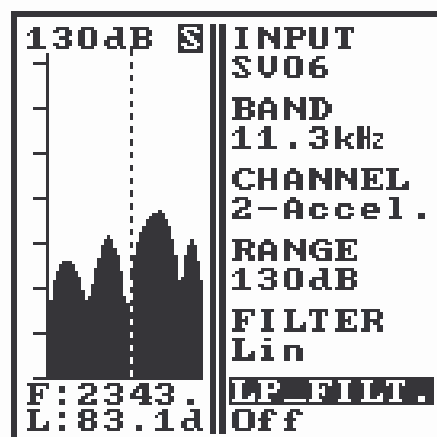

Fig. E.18. Four-channel measurement in ANALYZER MODE: INPUT window; LP_FILT:Off, FUNCTION: Spectrum
In order to start four-channel measurement (after the connection of the module according to Fig. E.1) the user has to set in the **INPUT** sub-window of the **INPUT** window the **SV06** or **SV08** option (similarly as in the **METER MODE** - cf. Fig. E.18).
4. to switch on (**On**) or off (**Off**) the additional low pass filter **LP_FILT.** (cf. Fig. E.18).